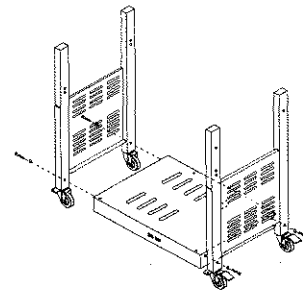

Figure 2
2. Attach left and right panels to bottom shelf by using $\frac{1}{4}$ " x 35mm philips head screws. (Fig.2)